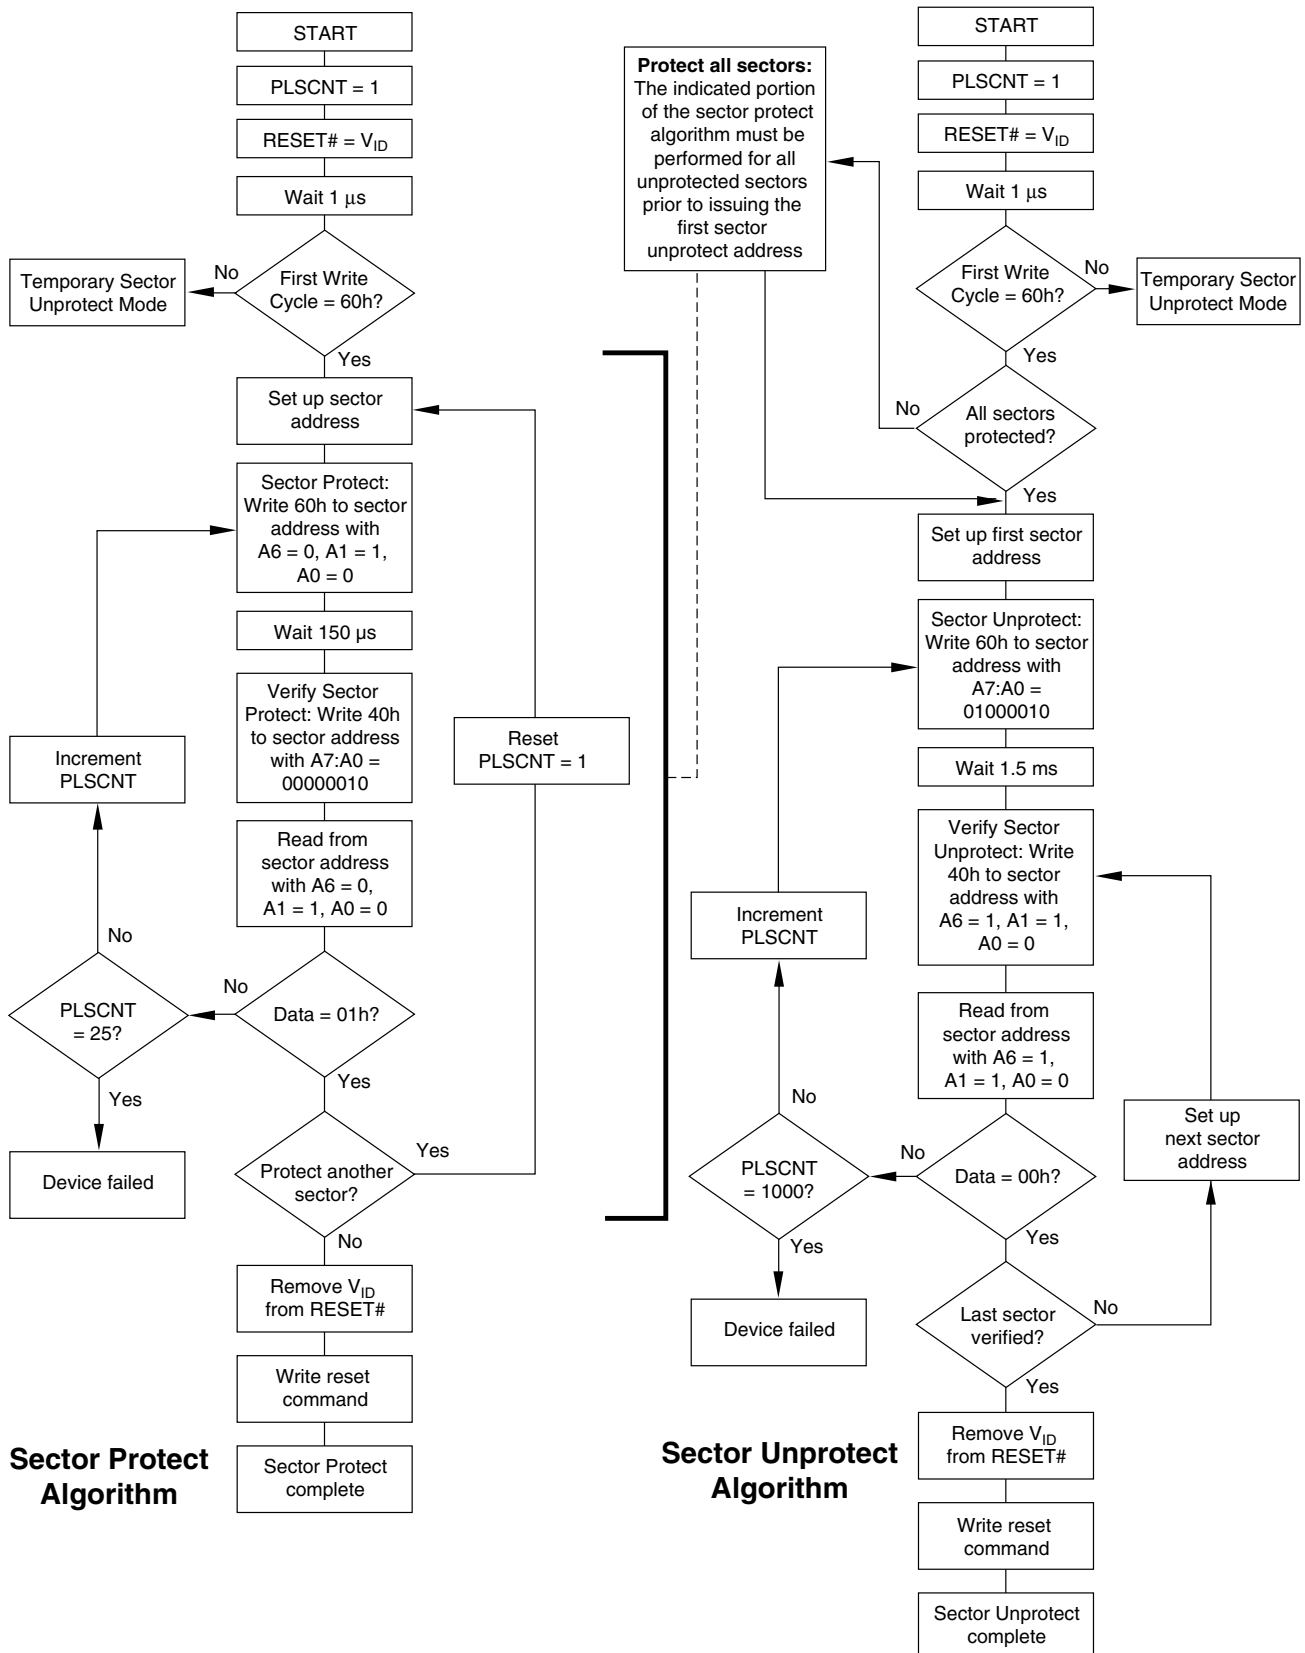

Figure 2. In-System Sector Protection/Sector Unprotection Algorithms
Sector protection and unprotection may also be implemented using programming equipment. The procedure requires high voltage (VID) to be placed on the RESET# pin. Refer to Figure 2, "In-System Sector Protection/Sector Unprotection Algorithms," on page 41 for details on this procedure. Note that for sector unprotect, all unprotected sectors must be first protected prior to the first sector write cycle. Once the Password Mode Locking bit or Persistent Protection Locking bit are set, the high voltage sector protect/unprotect capability is disabled.
- Write the three-cycle Enter Secured Silicon Sector Region command sequence, and then follow the in-system sector protect algorithm as shown in Figure 2, "In-System Sector Protection/Sector Unprotection Algorithms," on page 41 except that *RESET# may be at either V_{IH} or V_{ID}* . This allows in-system protection of the Customer Secured Silicon Sector Region without raising any device pin to a high voltage. Note that this method is only applicable to the Secured Silicon Sector.